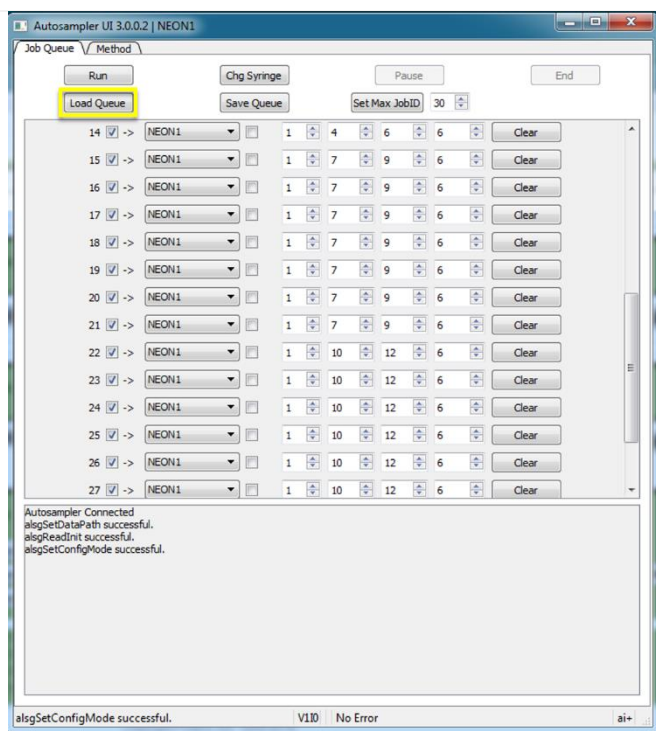

Figure 166. Select Load Queue again IF lines are Missing.
STEP 6 | If lines are missing, click **Load Queue** (Figure 166), again, and select “NEON1.Que”, again.